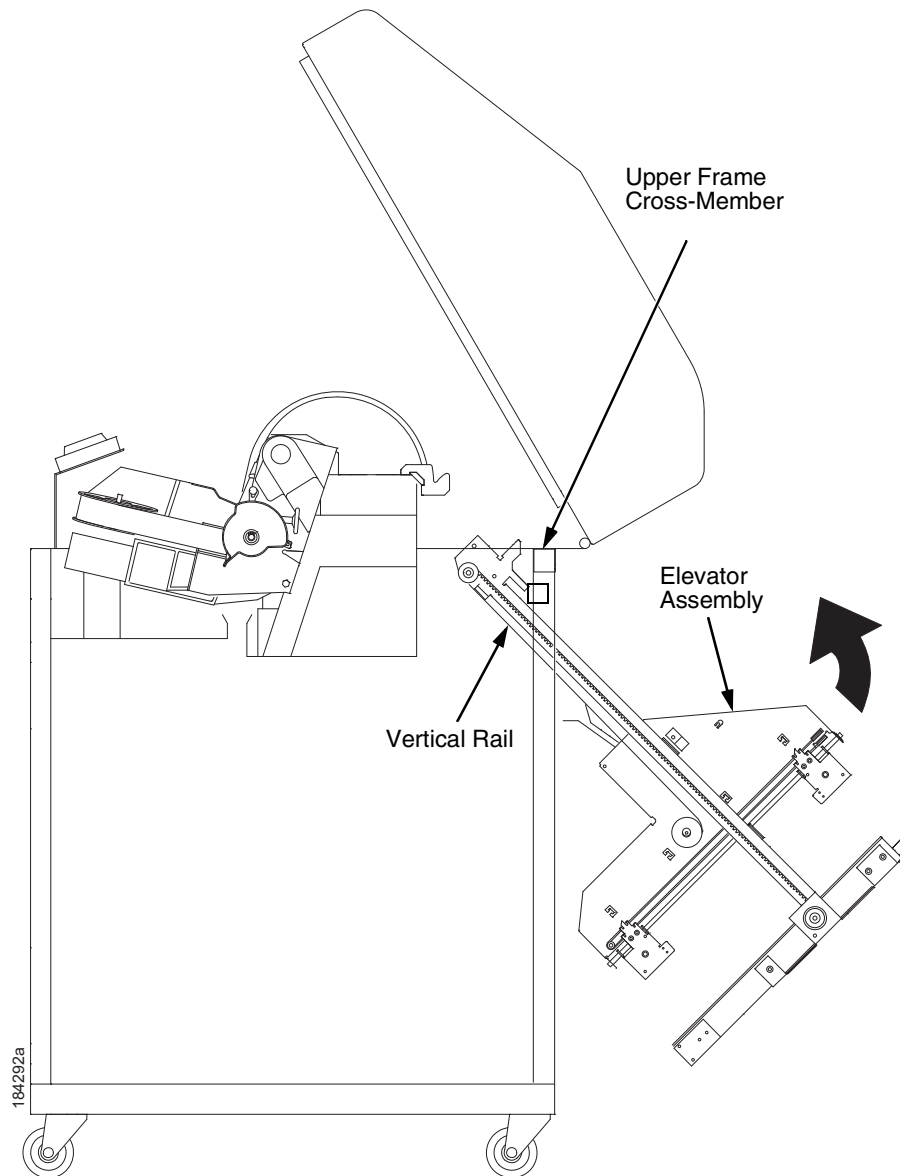

Figure 79. Removing the Stacker Assembly
15. Slide the stacker assembly slightly to the right to clear the air exhaust duct. Tilt the vertical rails toward the front of the printer until they clear the upper frame cross-member. Grasping the stacker assembly by the vertical rails, lift and slide it to the rear and angle it out of the cabinet, as shown in Figure 79.